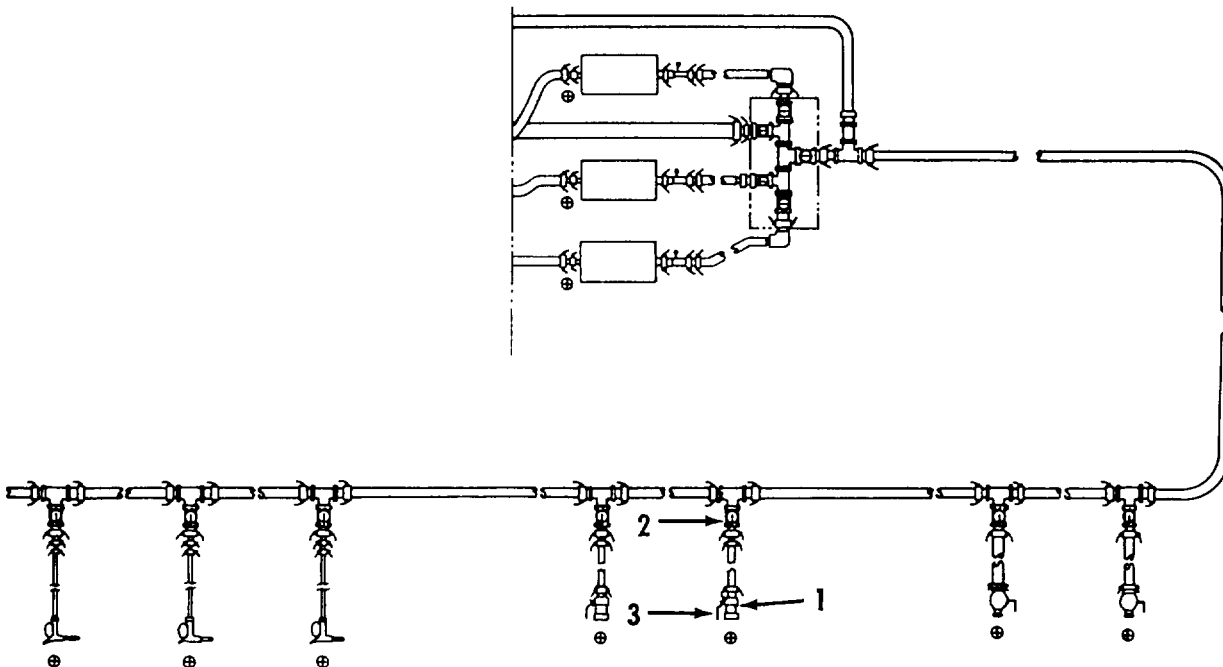

Figure 2-36. Refuel Mode - Drum Filling Points.
(6) Refuel Mode - Drum Filling Points. Refer to figure 2-36.